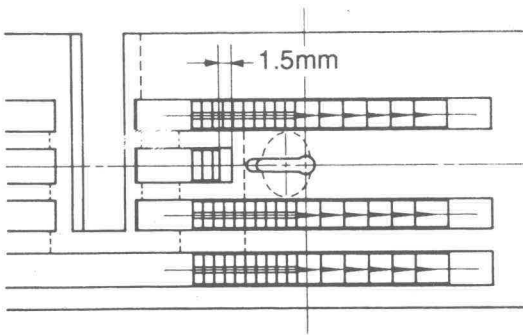

Fig. 8
a) Ensure that the feed dog does not touch the throat plate as it passes through. A clearance of 1.5 mm should be seen between the middle teeth of the front feed dog and the throat plate as indicated (Fig.8)